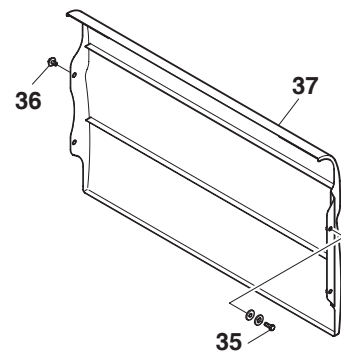

Figure 12
20. Remove four bolts (35 and 36, Figure 12) and cover (37) from fuel tank and support.